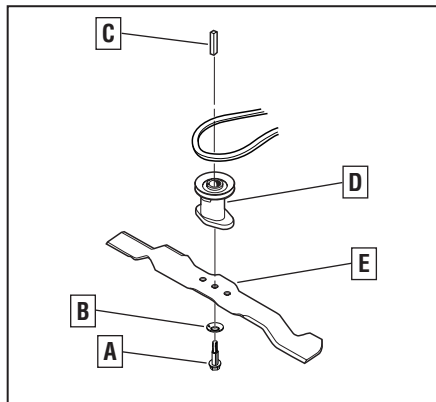

Figure 5-5: Mower blade assembly.
IMPORTANT: The blade coupler (D, Figure 5-5) may come off the engine shaft when removing the blade. If it does, do not lose the square key (C). The key fits into a square slot inside the blade coupler. Without it, the blade will not rotate.
3. Use a 3/4" wrench to loosen the blade screw (A, Figure 5-5). Hold the blade with a gloved hand to prevent the blade from rotating.
4. Remove blade screw and Belleville washer (A, B, Figure 5-5).
3. If the blade coupler (D, Figure 5-5) and/or square key (C) came off the engine shaft during blade removal, reinstall those parts back onto the engine shaft.
5. Slip the Belleville washer (B, Figure 5-5) onto the screw (A). Face the dished-in side to the blade.